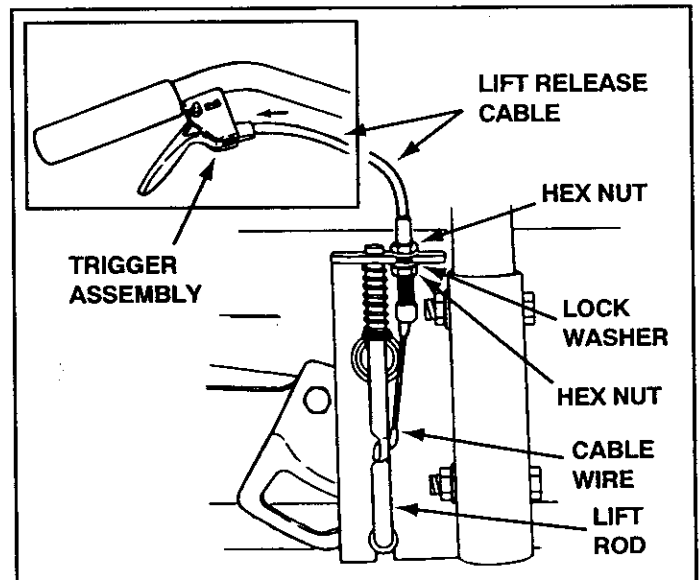

FIGURE 10 RIGHT SIDE VIEW
- Push the lift handle down into the locked position. Insert the end of the cable wire into the hole in the lift rod. Place the threaded fitting into the slot in the lift bracket, with one hex nut above and one hex nut and the lock washer below the slot. Tighten the nuts, adjusting them to eliminate slack in the cable wire. See figure 10. Refer also to the Service and Adjustments section on page 16 in this manual.